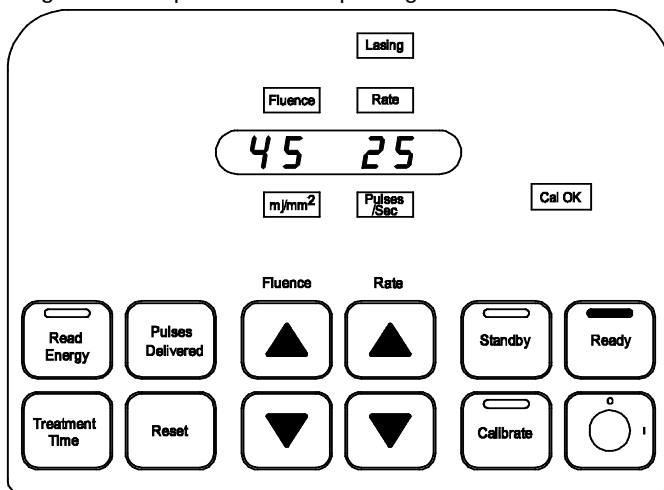

Figure 10
5. Depressing the footswitch causes the red **Lasing** light and red status light on the top of the control panel to illuminate. (Figure 10)